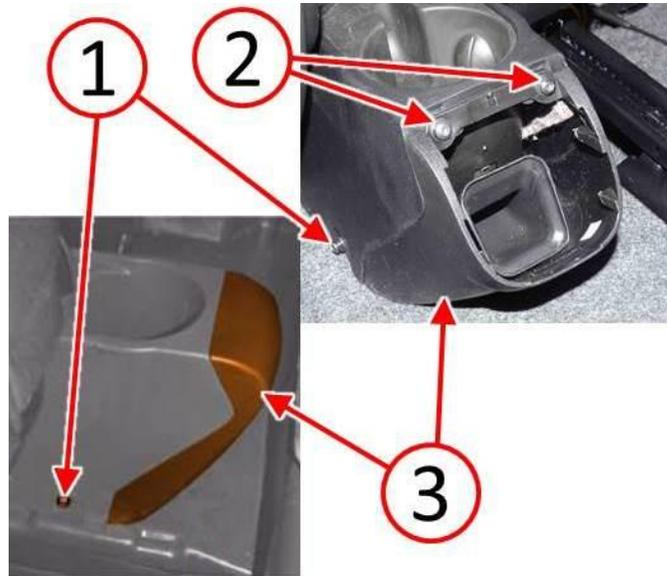

Fig. 2 Remove Floor Console End Cap
2. Vehicle may be equipped with or without an air outlet in the floor console as shown in (Fig. 2). Perform the following applicable steps depending on how vehicle is equipped:
- a. **Without air outlet:** Remove the two lower screws (1) from the right and left side of the floor console, then remove the end cap (3) (Fig. 2).
- b. **With air outlet:** Remove the two lower screws (1) from the right and left side of the floor console and remove the two upper screws (2), then remove the end cap (3) (Fig. 2).